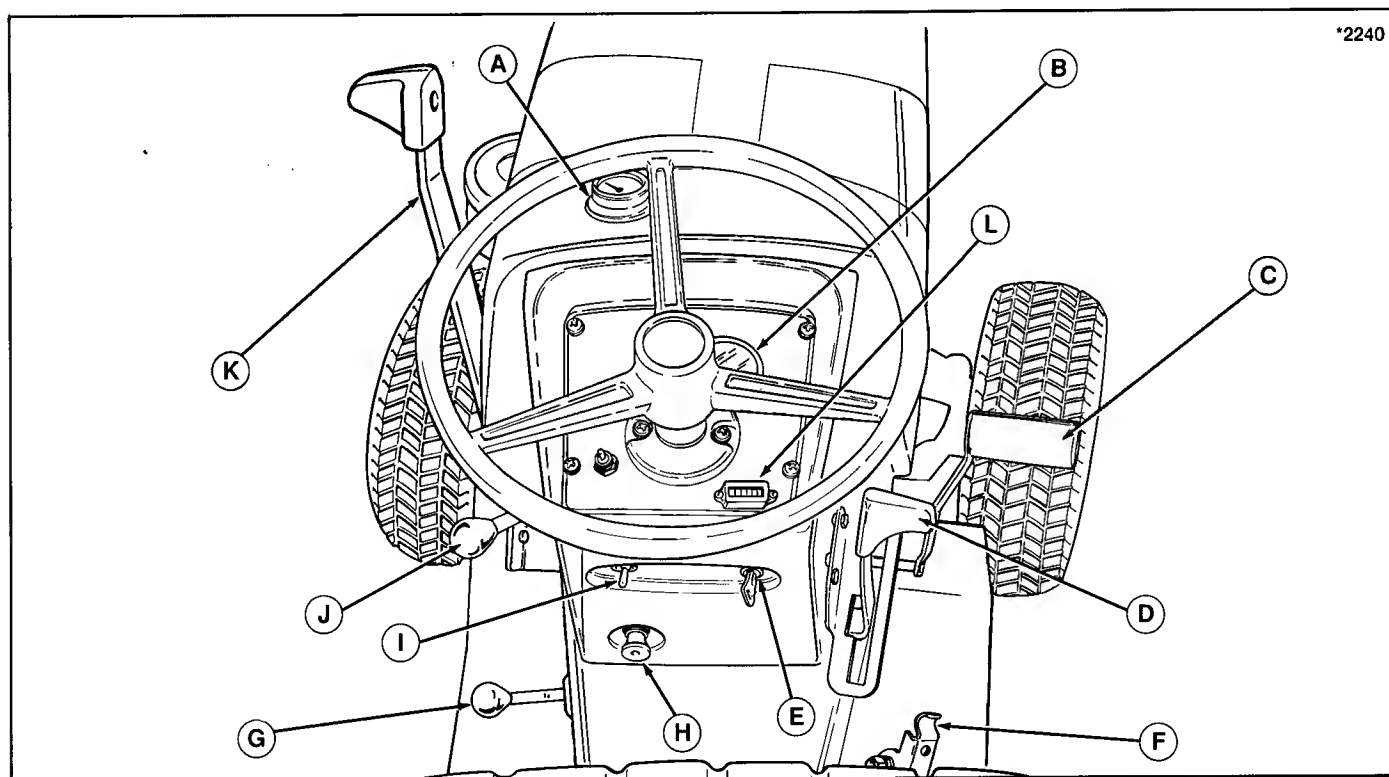
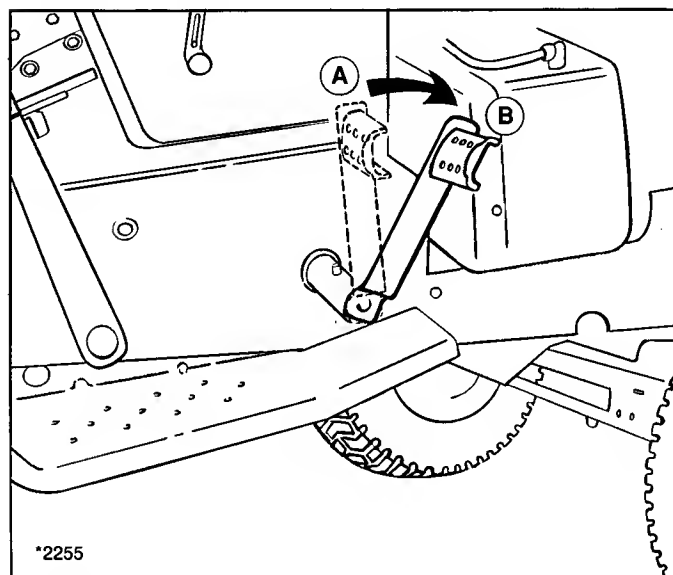

Figure 1. Controls
Figure 3. Clutch/Brake Pedal
8. Place engine speed control lever to full throttle, especially if mowing thick grass. Ground speed can be controlled by placement of transmission lever (D, figure 1).
Refer to figure 3. Depressing pedal from position A to B disengages transmission drive belt and applies tractor brake. Parking brake lever is shown as F, figure 1.